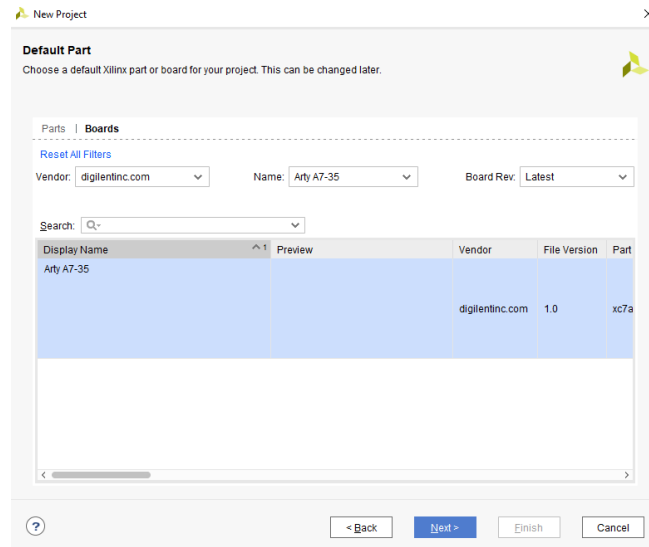

Figure 4: Setting target device
5. Now, we will set the target device for our project (see Fig. 4). Click the "Boards" tab at the top of the dialog box. Under "vendor", select "digilentinc.com" while under "Name", select "Arty A7-35". Select the